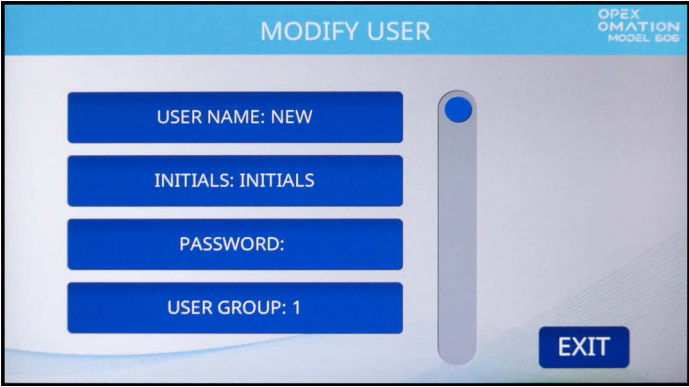

Figure 6-37: Modify User screen
4. The **MODIFY USER** screen appears (Figure 6-37). Configure the User's parameters as needed. These parameters are listed below.